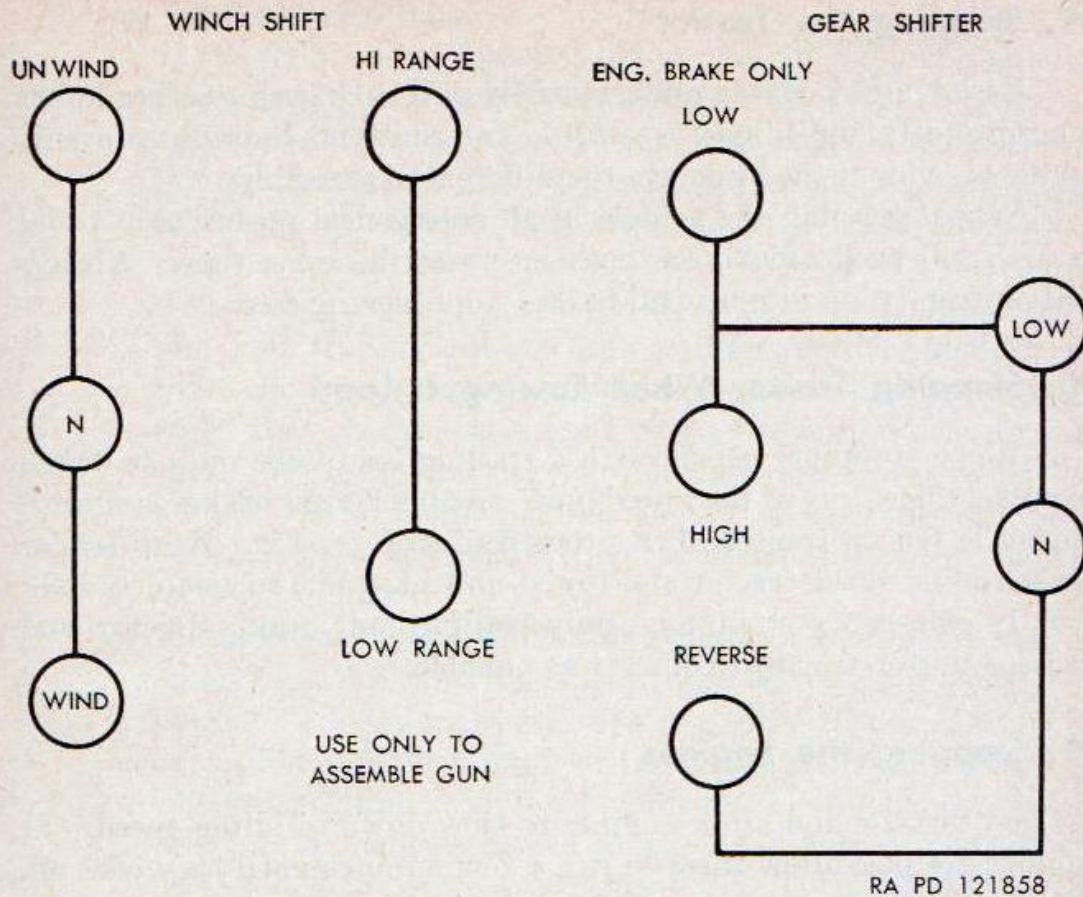

Figure 9. Diagram showing position of gearshift and power take-off levers.
b. Make certain that gear shift is in neutral position (refer to shifting diagram in fig. 9).
- (1) Push clutch pedal all the way down and move gearshift lever to desired speed range of transmission.
- (2) Let clutch pedal slowly up until clutch is fully engaged, speed up engines, and tractor will begin to move.
- (3) After tractor is in motion, use accelerator pedal to maintain desired speed of tractor.
a. Shifting Gears. The gearshift lever has four positions (fig. 9). Shift the lever into “LOW” position if the slowest forward speed or greatest power is desired. Shift lever into “HIGH” position for highest forward speed. The “ENGINE BRAKE” position is to be used only to hold tractor and load to a slow speed when descending steep grades. To back tractor, shift lever in “REVERSE” position and move tractor slowly and carefully.